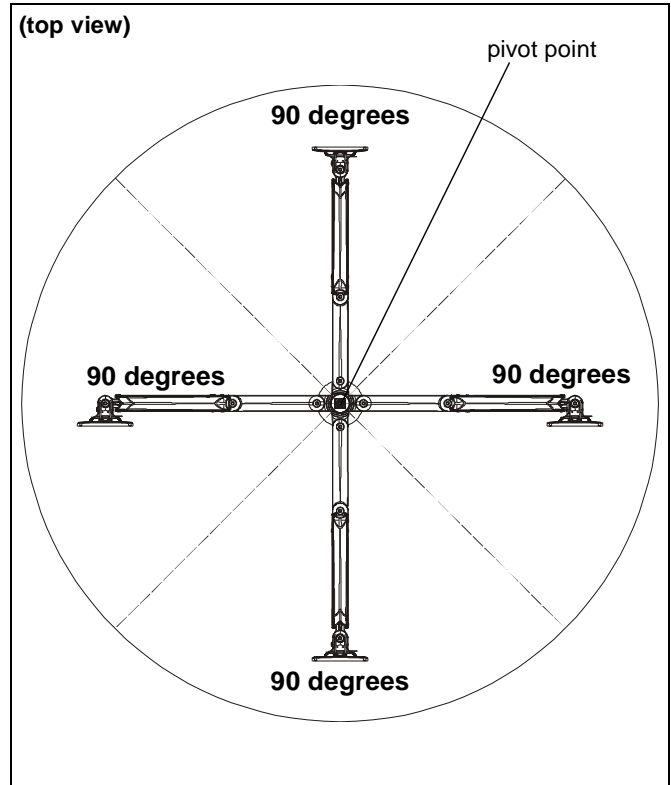

Figure 6
1. Adjust arm angles as desired within a 90 degree range. (See Figure 6)